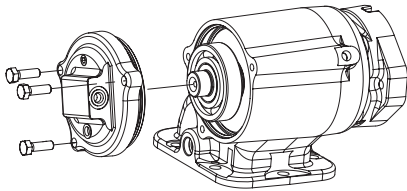

Figure 1 - Bearing Cover Removal
1. Remove the input gear (32), tapered roller bearings (30) and bearing spacer (33) by removing the set screw (27) in the mounting pad and driving the input shaft (31) from the housing (23).
2. Next, remove the intermediate gear (35), bearings (34) and cone spacer (36) by removing the hex nut (25) and driving the intermediate shaft (37) from the PTO housing (23).
3. Remove the three hex head capscrews (43) using a $\frac{9}{16}$ " wrench. Remove the bearing cover (40) from the PTO housing (23). See Figure 1.